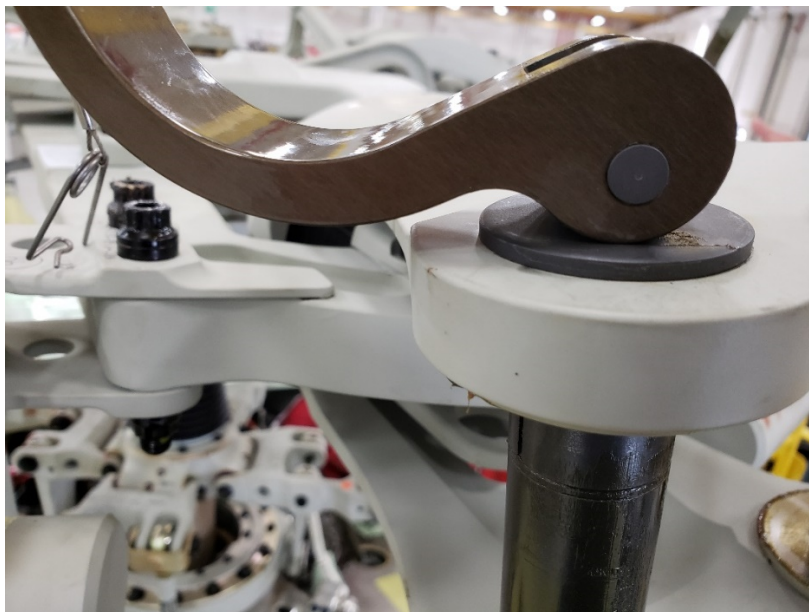

Figure 2 - Blade bolt handle in a relaxed position
- a. Remove the safety pin and un-latch the bolt handle (Figure 2). Ensure the handle is in a relax position and the bolt can turn freely indicating that the tension has been removed from the collars and the handle.
9. Remove the safety pin and un-latch the bolt handle (Figure 2). Ensure the handle is in a relaxed position and the bolt can turn freely indicating that the tension has been removed from the collars and the handle.